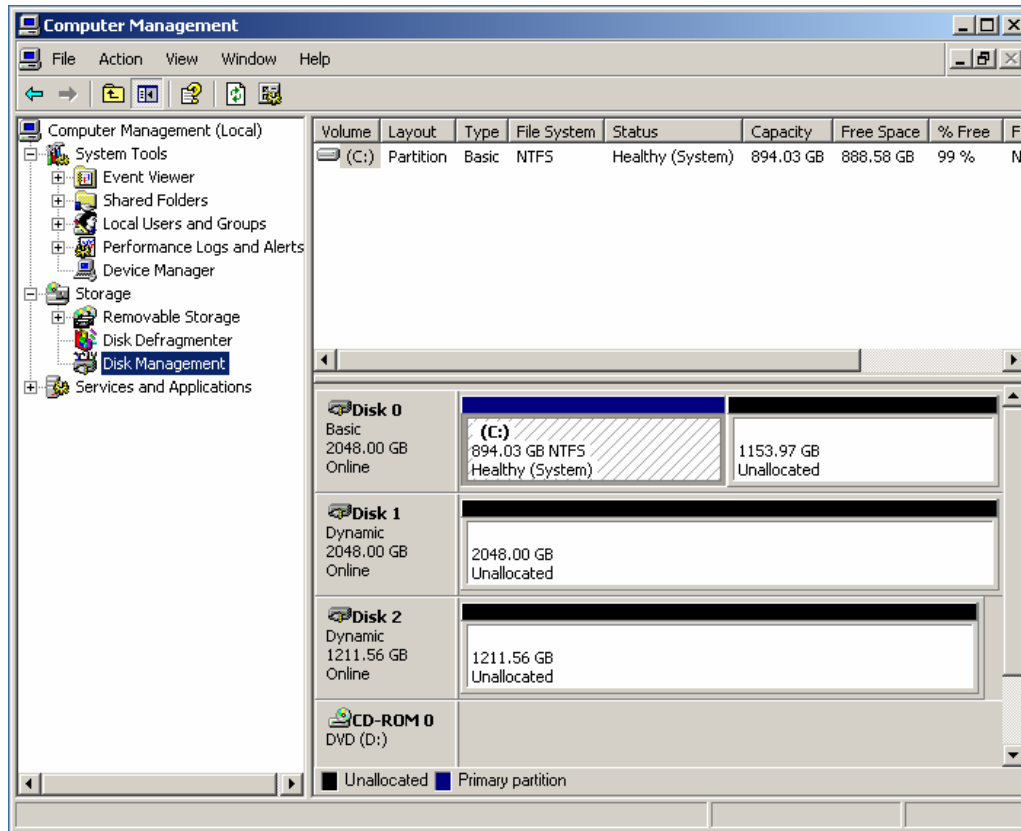

Figure 6-24. Disks 1 & 2 – as yet - unallocated
- 26) Observe that the **Disk Management** area of the **Computer Management** dialog now shows a new set of **Dynamic** disk volumes (**Disk 1** and **2**), which are – as yet – unallocated (Figure 6-24).